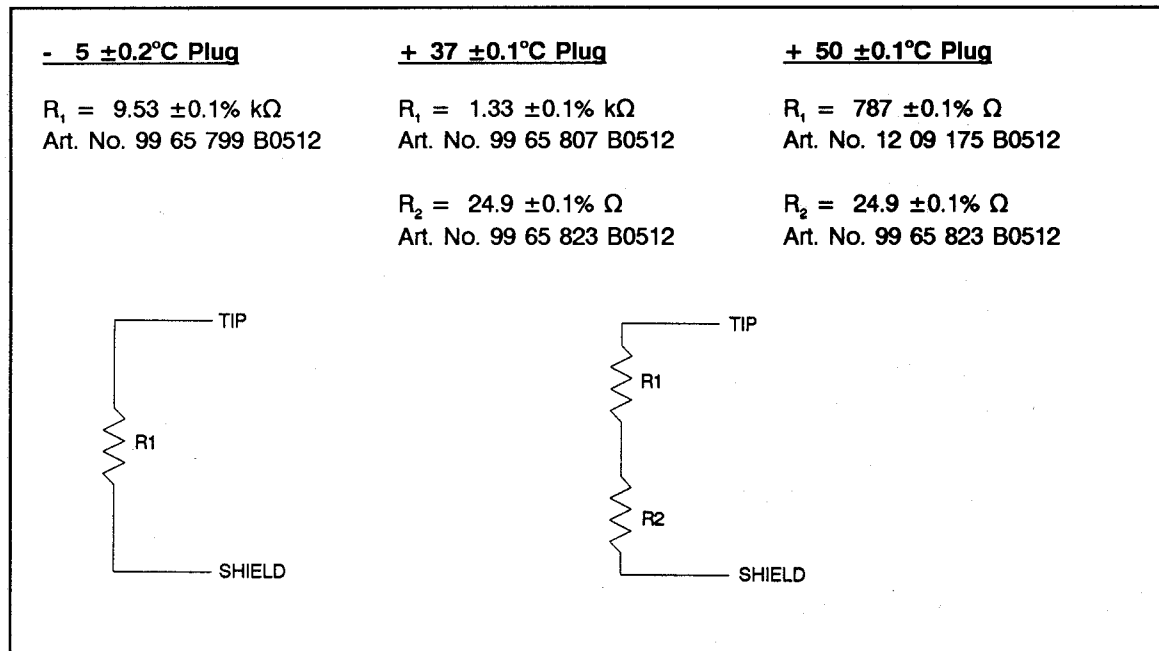

Figure E-1. Temperature Simulator Test Plug Resistance Configurations
1. Connect and solder the resistor(s) as shown in Figure E-1 for the selected test temperature.